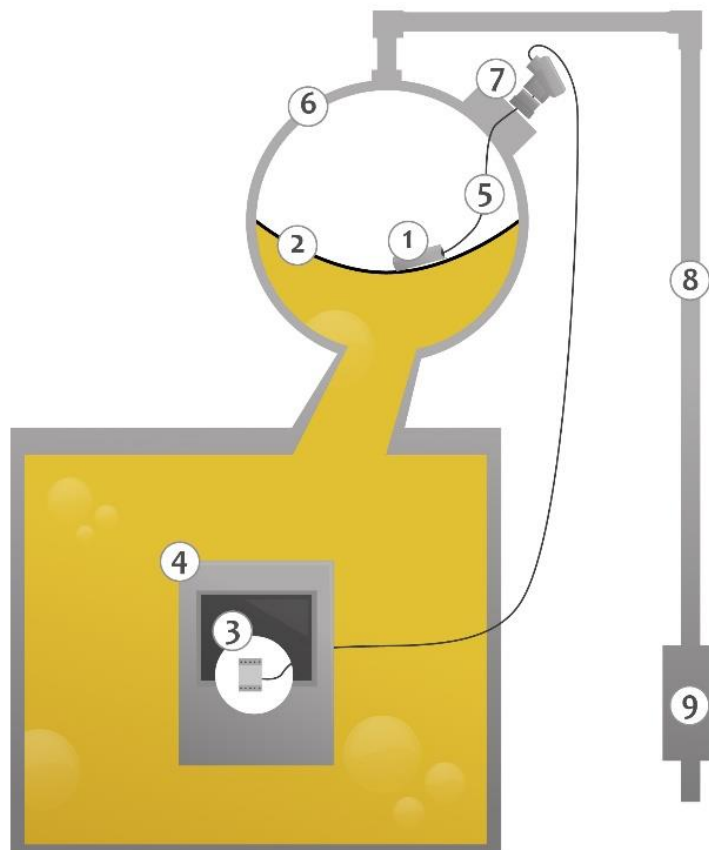

Figure 3 – MBR relay application with a membrane based system
Figure 3 illustrates the application of the Membrane Relay with a rubber membrane based sealing system. In this figure we can see the MBR sensor (1) located on the upper part of the rubber membrane (2). The sensor (1) is connected to the control module (3), installed on the transformer control panel (4), through a cable (5). The wiring of the cable (5) from the interior of the expansion tank (6) to the outside is generally accomplished by means of a junction box (7) to maintain the sealing of the expansion tank (6). This junction box is not supplied with the MBR, as its physical construction will depend on the construction of the conservative tank.